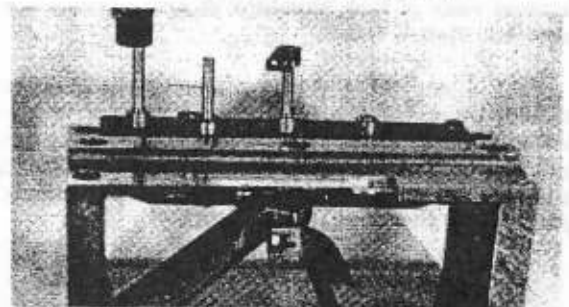

Figure 1-10C. ADJUSTING LEVER USE
1. Use two Adjusting Levers T-40080-FF. Place head of each lever as shown in figure 1-10C.